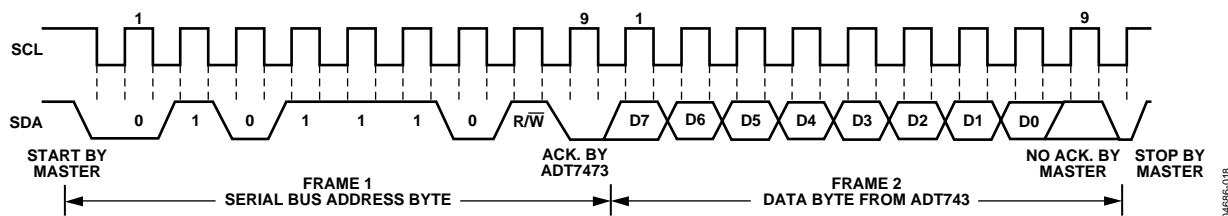

Figure 16. Reading Data from a Previously Selected Register
A read operation is then performed consisting of the serial bus address, R/\overline{W} bit set to 1, followed by the data byte read from the data register. This is shown in Figure 16.
- If the address pointer register is known to be already at the desired address, data can be read from the corresponding data register without first writing to the address pointer register, as shown in Figure 16.